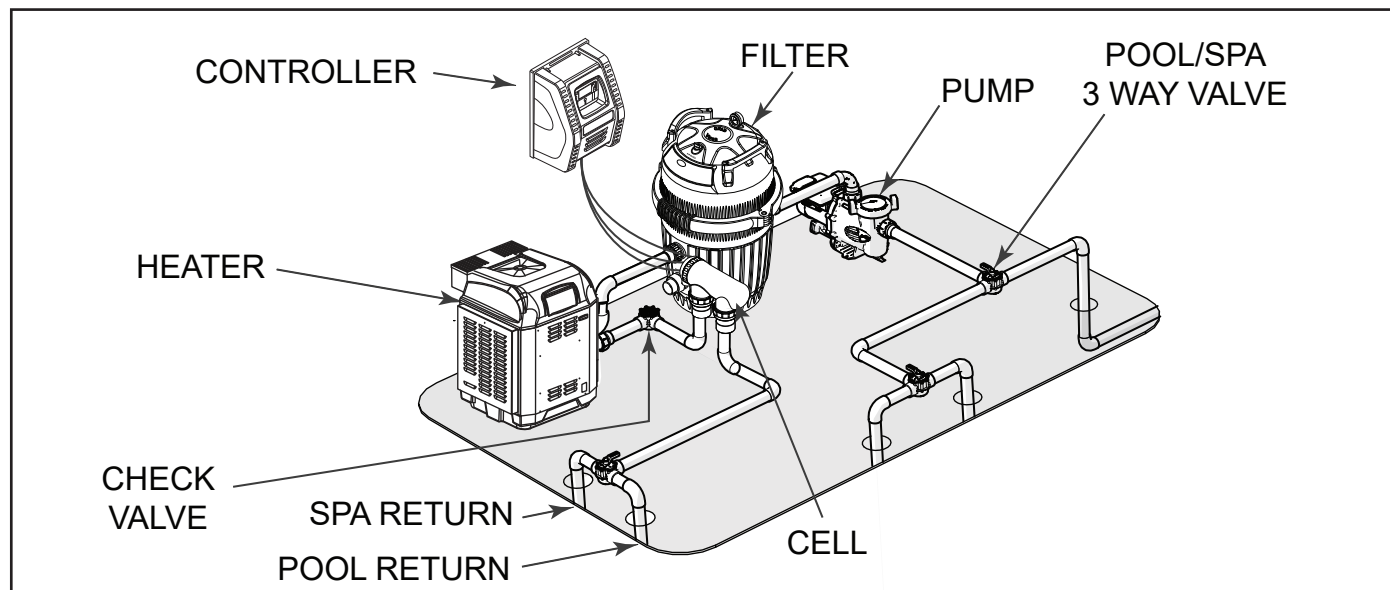

Figure 3. Plumbing Cell Only
The cell must be plumbed in a position that is accessible for maintenance and within 1.5 meters of the controller. The cell should be the last piece of equipment in the circulation system. The cell must be installed horizontally, level and with correct flow orientation, see Figure 3.
- The cell must be the last piece of equipment on the return line, see Figure 3.